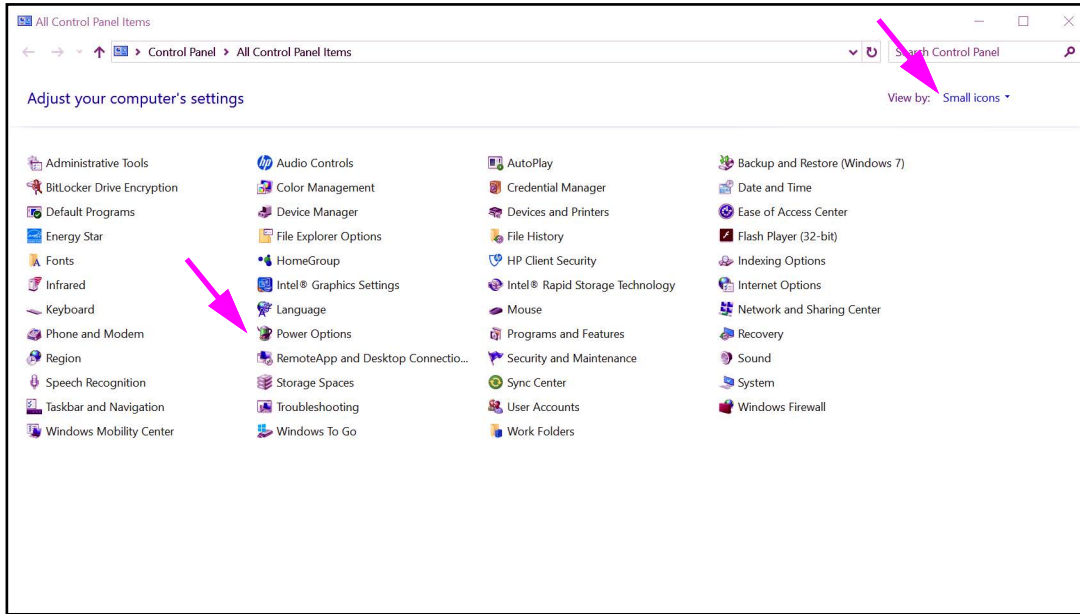

Figure 2-14. All Control Panel Items Window
2. Select **Windows System > Control Panel**. If the view is set for Small icons, the All Control Panel Items window appears as shown in Figure 2-14. Click on **Power Options**.